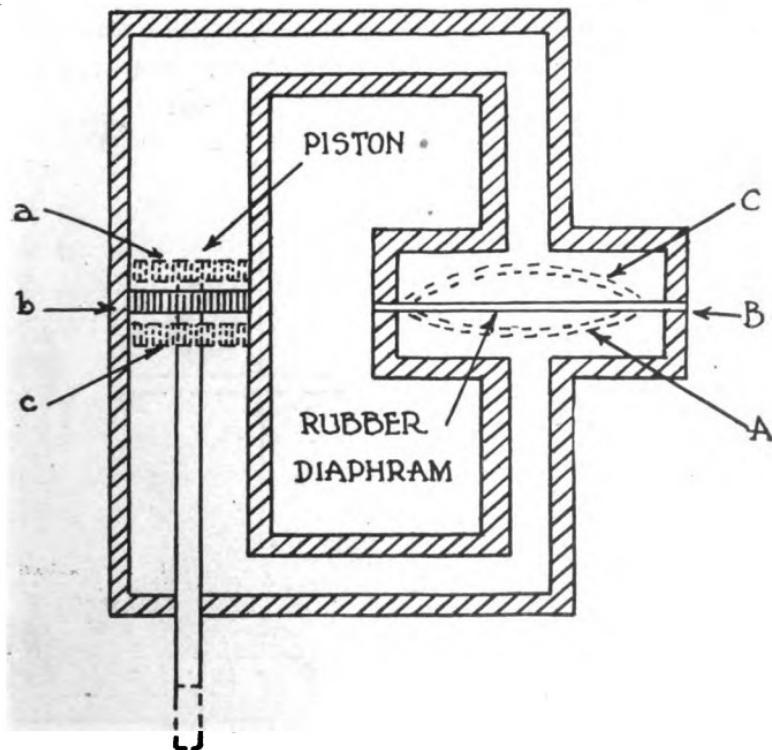
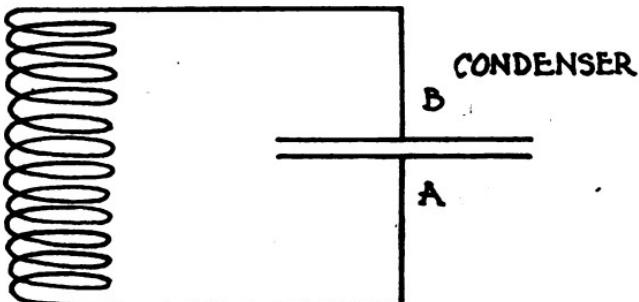

Fig. 41—Oscillating Current of Water Produced by Weight and Spring Action of Diaphragm
Fig. 42—Oscillating Electrical Current Produced by Inductance (Weight) and Condenser Capacity (Elasticity).
We have previously considered how the current flowing in a coil of wire has a magnetic effect, which generates a voltage which we said was due to self-induction, the effect being to keep the current flowing, so that it seems to act like a flywheel. A mechanical and hydraulic illustration of this action is shown in Fig. 41, where we have a piston moving in a cylinder, the water passage connecting with another chamber at the right in which there is a rubber diaphragm which prevents continuous flow in either direction.
Similarly, in Fig. 42, we have a coil of wire or an inductance coil connected to a condenser, the insulation of which would prevent continuous flow of current in either direction. Now suppose that in Fig. 41 we should give the piston rod an upward push and release it. The push would send the water around to the right, this motion being possible owing to the rubber diaphragm which would spring down to position (*A*), while the piston would be in its position (*a*). When the force had spent itself, the internal strain in the
In Fig. 42 we will now assume that a bar magnet has been suddenly pulled out of the inductance coil at the left. We know from our previous discussions that this will generate an electrical voltage, which we will say is in such a direction as to make side (B) of the condenser positive and side (A) negative. As soon as the first rush of voltage has spent itself, however, and there is no longer voltage generated in the coil, the elastic effect of the condenser will assert itself, and it will dis-
charge, the discharge current flowing around through the coil to the (*A*) side of the condenser. As soon as the condenser has reached a discharge condition, the circumstances will be similar to those in the middle position in Fig. 41, for the electrical current through the coil will be rushing along at a rapid rate, and owing to its flywheel effect (inductance), it will not want to stop. The result is that it keeps going and has the effect of now charging the (*A*) side positively and the (*B*) side negatively. When the rush of current in this direction is spent, a reverse flow occurs, and this oscillating electrical current continues, until it too dies out, owing to electrical friction (resistance) in the circuit.
In our circuit in Fig. 42 the same conditions hold, for the greater the capacity of the condenser, the slower the circuit will oscillate and the longer
ondary which surge back and forth, charging the condenser first one way and then the other, as illustrated in Fig. 41 and Fig. 42.